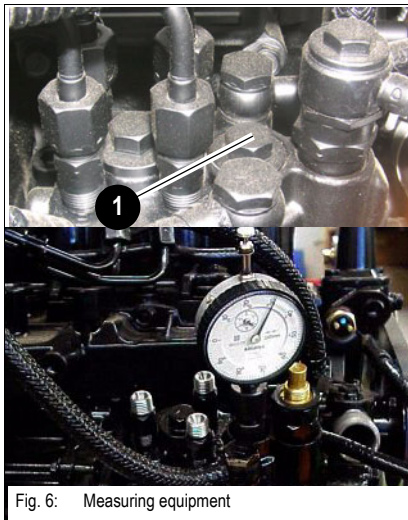

Fig. 6: Measuring equipment
- Install a dial gauge in the piston bore as shown in fig. 6